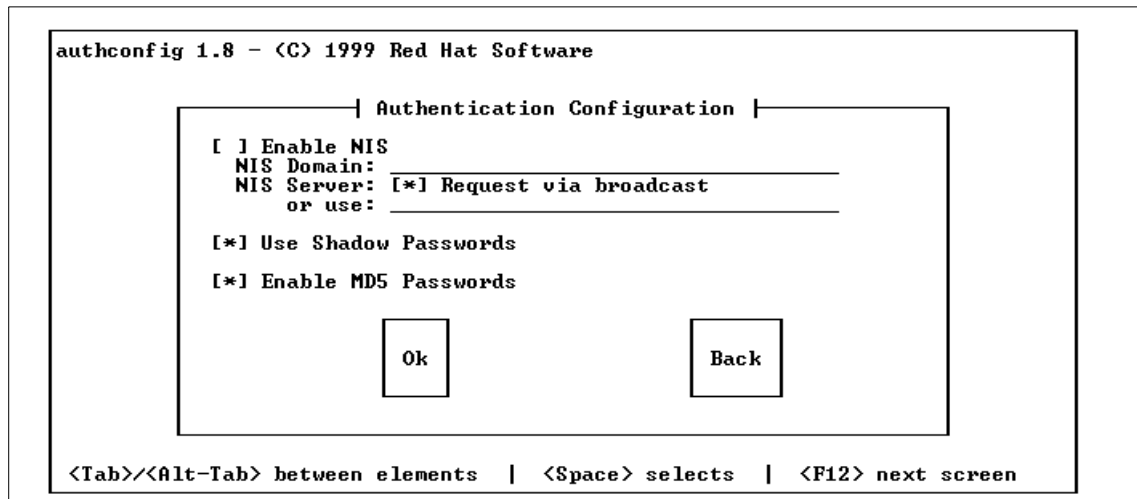

Figure 48. Authentication Selection
25. Choose **Authentication Configuration** (see Figure 48). If you need to integrate into a NIS domain, you can set it here.